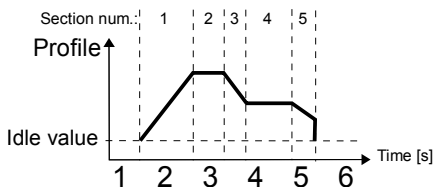
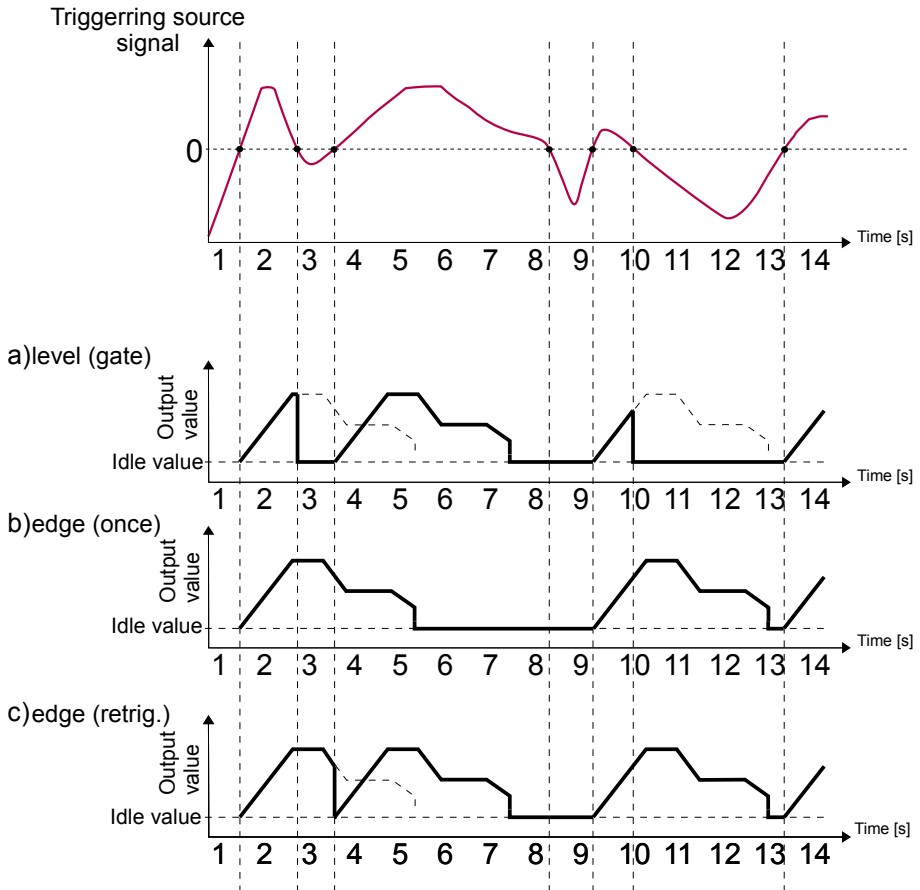

Fig. 7.85. Sample of Profile/timer
Fig. 7.86. Samples of **Profile** output waveforms defined in Fig. 7.85, triggered by signal selected in **Triggerring source** parameter
- **level (gate)** - this means that configured by user **Profile** is generated when source signal will have a value > 0 , otherwise (if source value ≤ 0) defined Profile will not be generated, see example **a**) in the Fig. 7.85 and Fig. 7.86,
- **edge (once)** - this means that configured by user **Profile** will be triggered by rising edge signal (from values ≤ 0 to the value > 0) from source signal. After the rise edge the **Profile** will be generated in whole (once), regardless of further changes to the signal source, see example **b**) in the Fig. 7.85 and Fig. 7.86,
source signal will generate a edge, whether that Profile had been completed or not, see example **c**) in the Fig. 7.85 and Fig. 7.86,